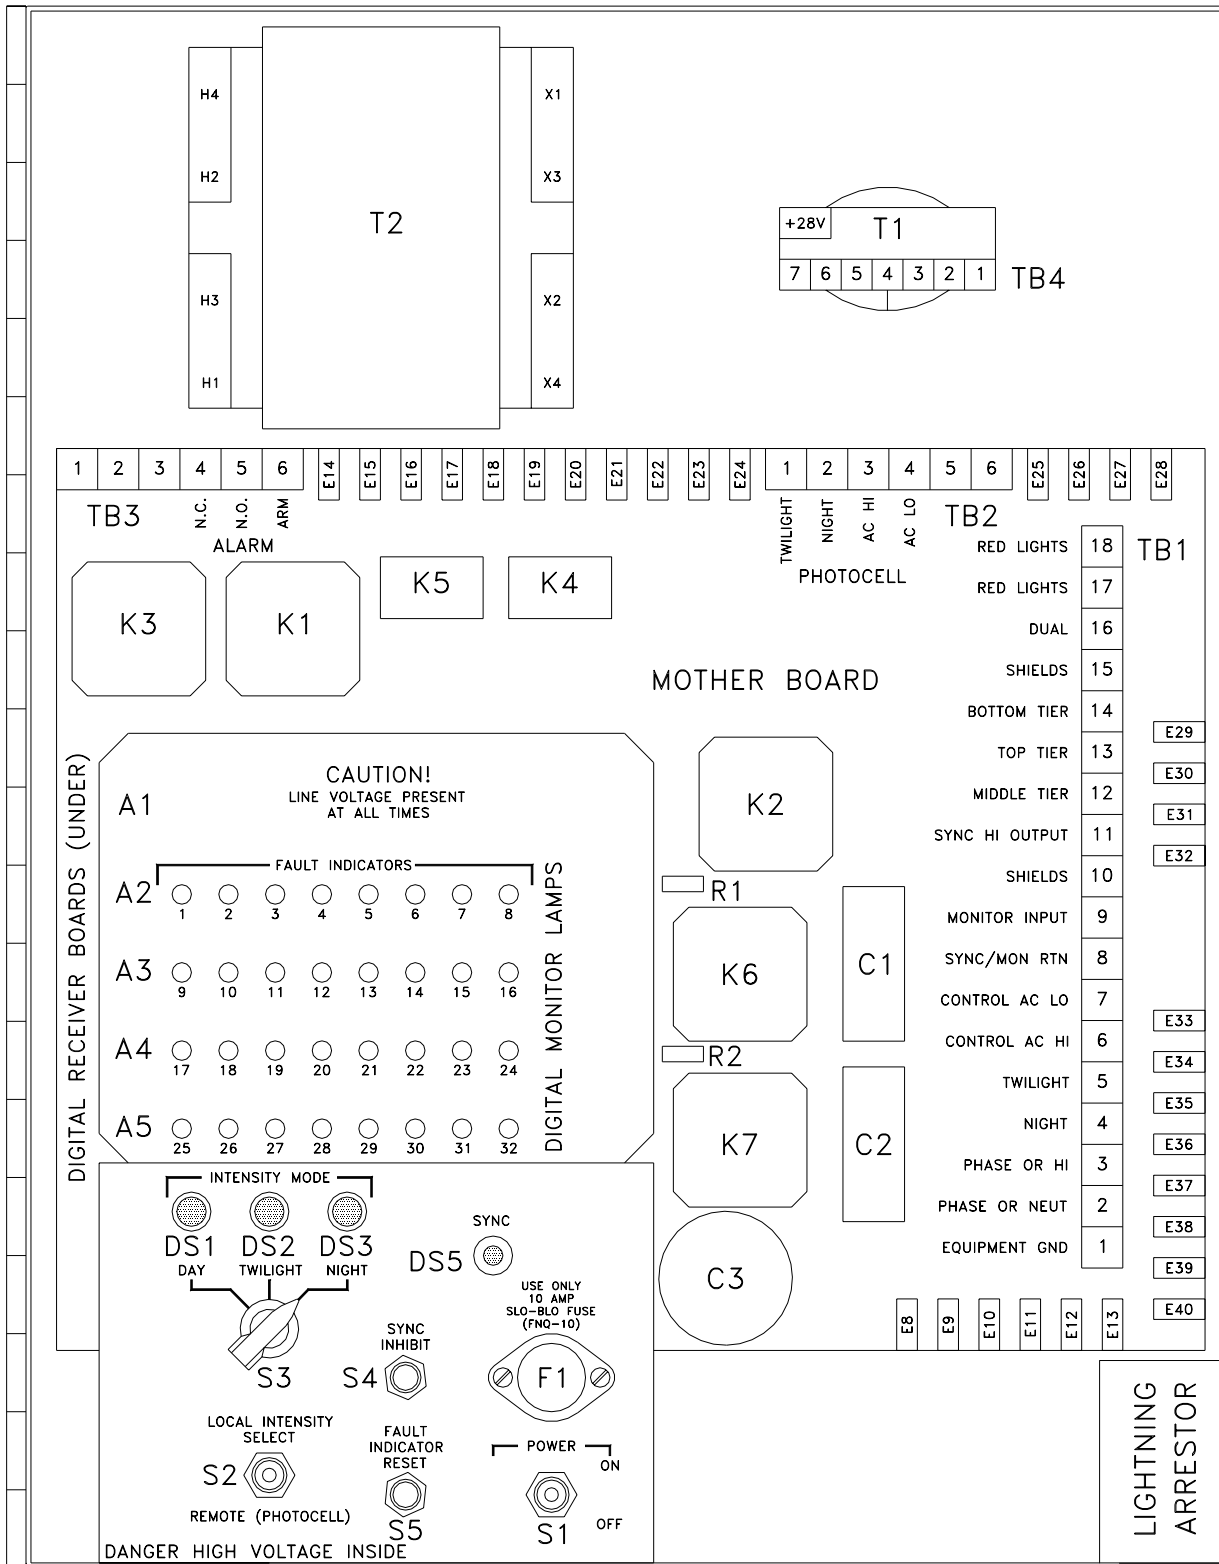

Figure 3-2: Component Locations - SS122 Controller
3.2.2 SS122 Controller (Figure 3-2)